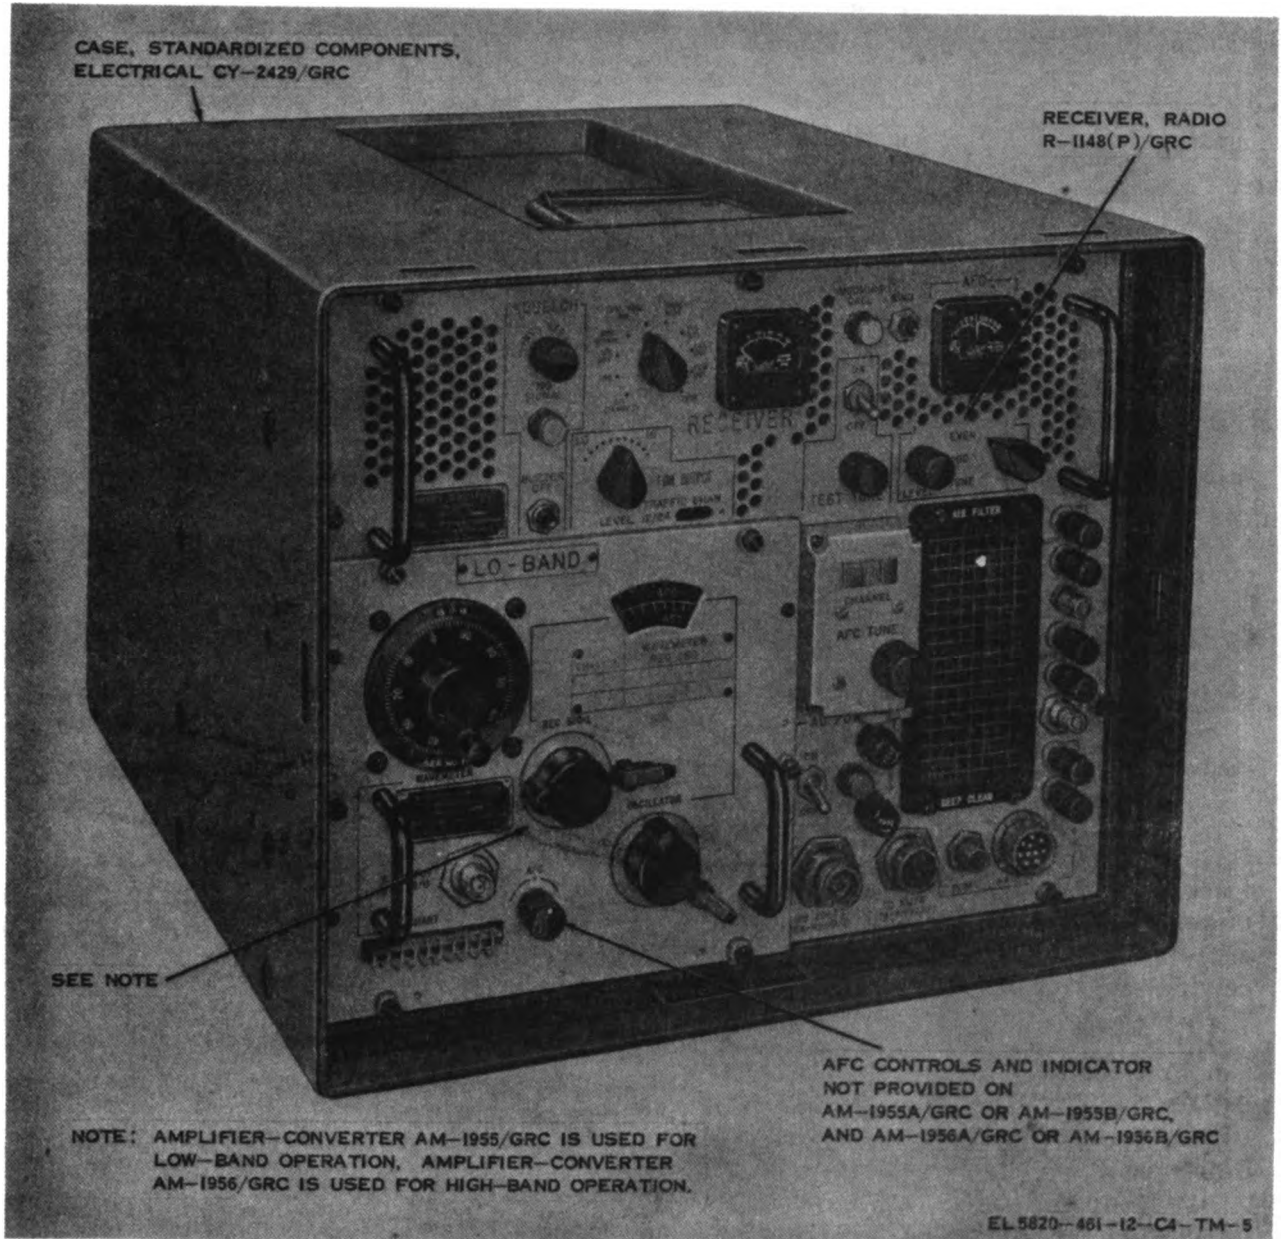
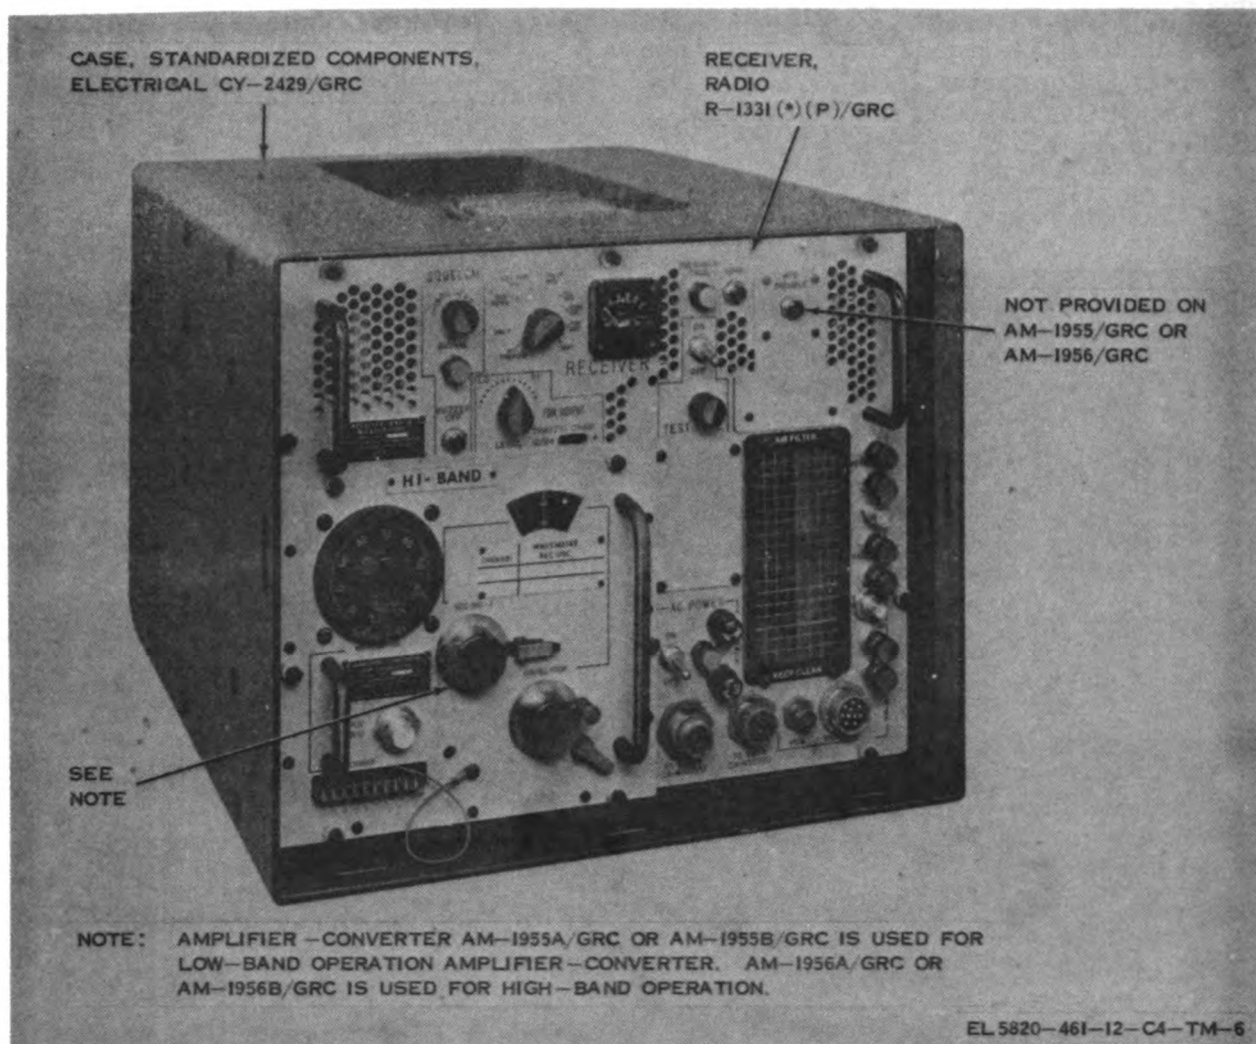

Figure 1-5. Receiving equipment, major components with Receiver, Radio R-1148(P)/GRC.
Figure 1-6. Receiving equipment, major components with Receiver, Radio R-1331(*) (P)/GRC.
a. The receiving equipment on the radio set consists of the items illustrated in figures 1-5 and 1-6. Nylon slides on the inside of the case permit the components to slide easily in and out of the case. Receiver, Radio R-1148(P)/GRC or R-1331(*)/GRC contains a square opening in the lower left side for the installation of the low-band tuning unit (Amplifier-Converter AM-1955(*)/GRC), or the high-band tuning unit (Amplifier-Converter AM-1956(*)/GRC). When not in use, the AM-1955(*)/GRC or AM-1956(*)/GRC is stored
d. Amplifier-Converters. The use and differences between the unlettered models (AM-1955/GRC and AM-1956/GRC) and lettered models (AM-1955A/GRC, AM-1955B/GRC, AM-1956A/GRC, and AM-1956B/GRC) are given in (1) through (5) below.
(1) The unlettered models of the amplifier-converters are used with the P-1148(P)/GRC; the lettered models are used with the other receivers (R-1331(P)/GRC, R-1331A(P)/GRC, and R-1331B(P)/GRC).
(2) The unlettered models of the amplifier-converters have automatic frequency control (afc) circuitry with the AFC correction control on the front panel (fig. 1-5); the lettered models do not have the afc circuitry and the AFC control (fig. 1-6).
(3) Any model amplifier-converter may be used in any model of the receiver; however, for disabling the afc during tuning (para 3-8), the procedures are different when the lettered model amplifier-converter is used in the R-1148(P)/GRC.
(4) The B-model amplifier-converters differ from the A-model units in that filter capacitors C23 and C24 are provided in the filament circuit of tube V2 in first IF assembly 3A1A1/3A2A1 of the B-model unit.
(5) First IF assembly 3A1A1/3A2A1, whether provided with the filter capacitors ((4) above) or not, are electrically and mechanically interchangeable and may be used in any model of any amplifier-converter.
e. Amplifier-Oscillators. The uses and differences between the AM-1958/GRC and AM-1958A/GRC are given in (1) through (3) below.